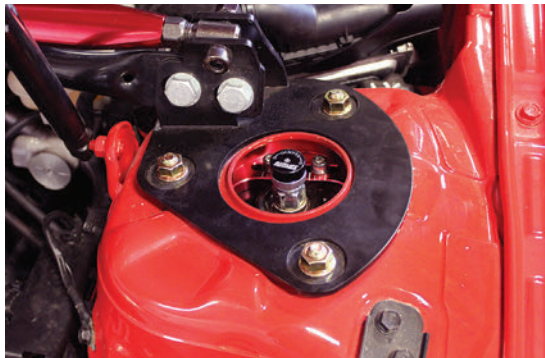

fig. D.10
2. Insert the Air Lift Performance strut into the strut pocket. Install the new nuts and torque to 44-59Nm (33-44 lb.-ft.) (Fig. D.10).